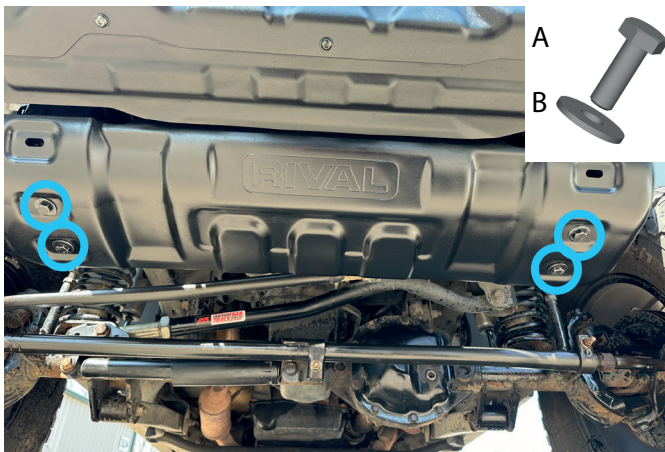

Fig. 3
4. Fix steering skid plate (item 1) using bolts M10x30 (item A) and washers 10 (item B), as shown in fig.3.